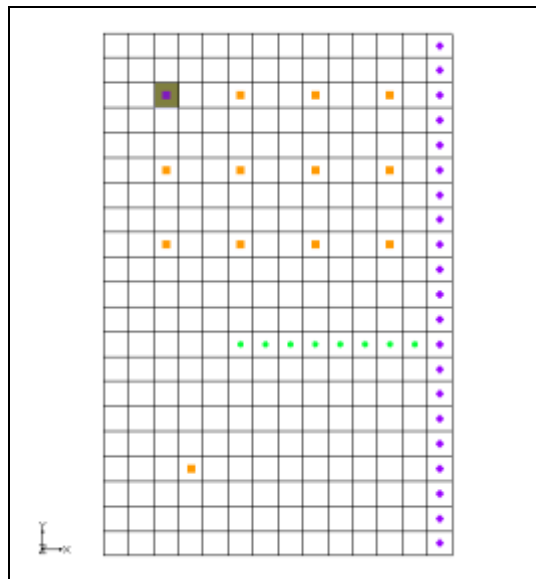

Figure 6 Selected MNW2 well cell
1. Re-select the grid cell containing WELL-A (as shown in Figure 6, the one containing the top-left well with Cell ID 31).